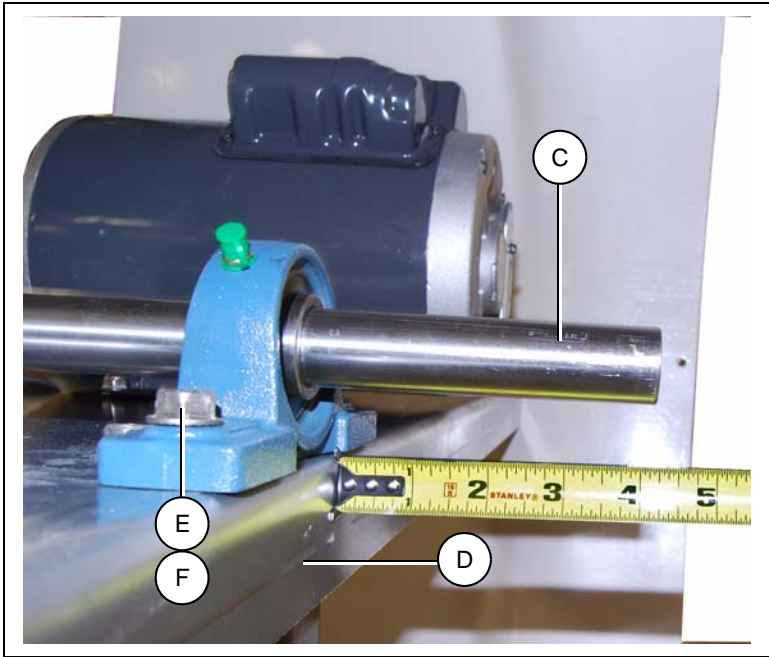

Figure 8P
3. Position the end of the shaft (C) 4-1/4" from the edge of the bearing plate (D) on the exhaust side of the fan housing. (See Figure 8P on Page 22.)